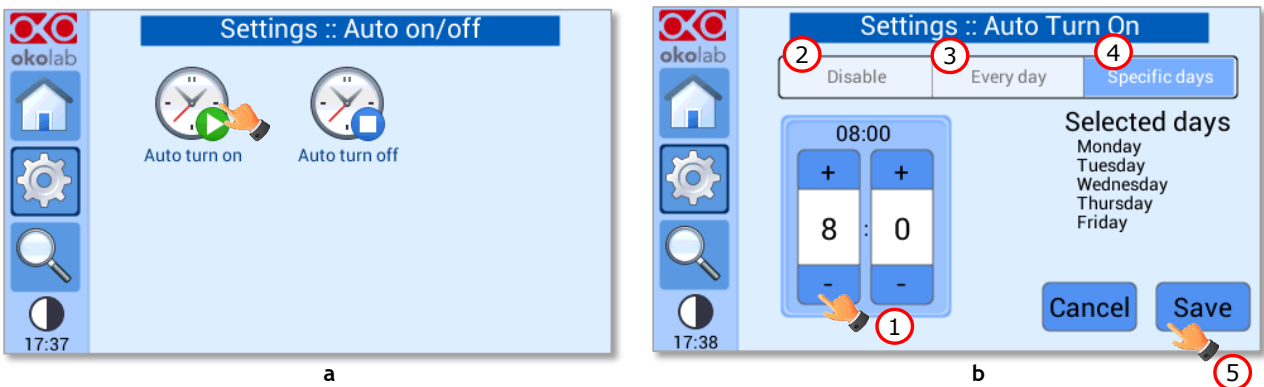
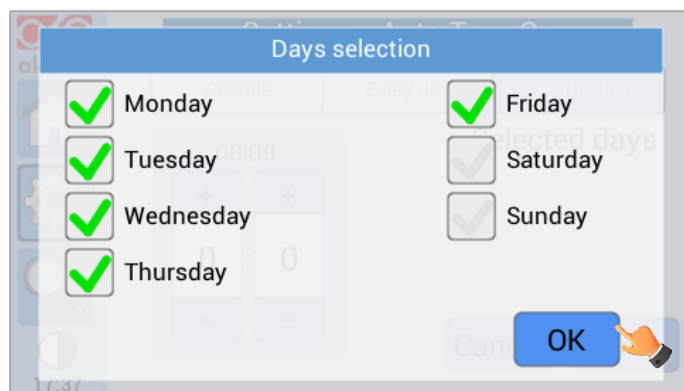

Figure 94. Settings – Auto on/off- Auto Turn On (a - b).
Figure 95. Settings – Auto on/off- Auto Turn On – days selection.
Press on Auto turn on icon  to enter in Auto Turn on menu (see Figure 94 a). Set the switching on time, the first number is for setting hour (from 0 to 23), the second number is for minutes (see pointer 1 in Figure 94 b). If you select:
- *Disable*: UNO-CONTROLLER will not turn on automatically (see pointer 2 in Figure 94 b).
- *Every day*: UNO-CONTROLLER will turn on automatically every day at set time (see pointer 3 in Figure 94 b).
- *Specific days*: UNO-CONTROLLER will turn on automatically at set time on selected days (see pointer 4 in Figure 94 b). Flag the desired days and press *OK* (see Figure 95).
Click on *Save* to confirm or *Cancel* to undo (see pointer 5 in Figure 94 b).